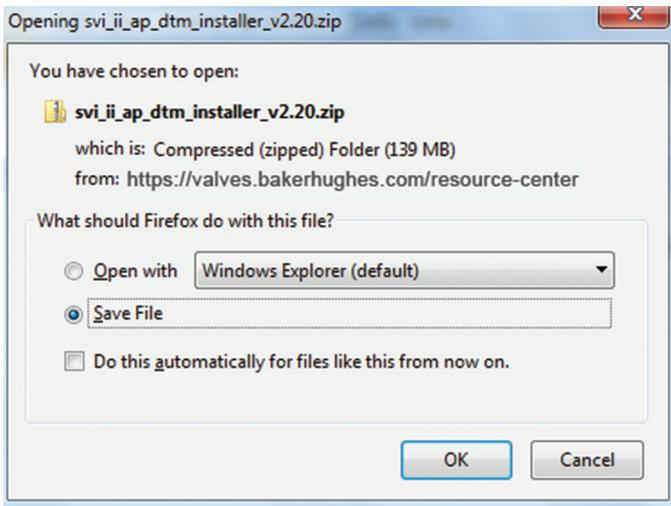

Figure 10 - Opening Dialog
2. Select Download below SVI II AP DTM and Figure 10 appears.